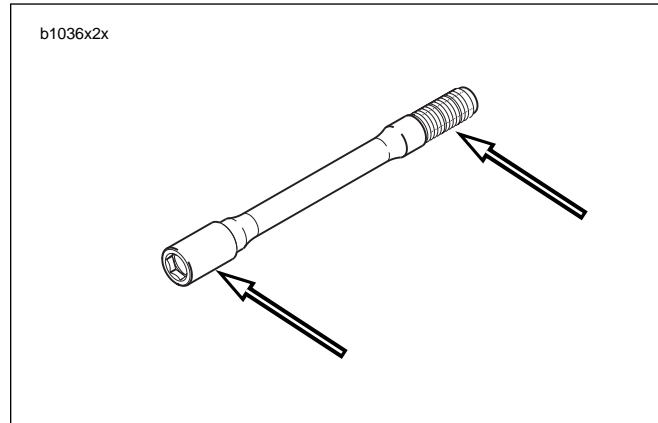

Figure 2-25. Anti-Seize Lubricant Location
4. See Figure 2-25. Coat the axle with ANTI-SEIZE LUBRICANT.